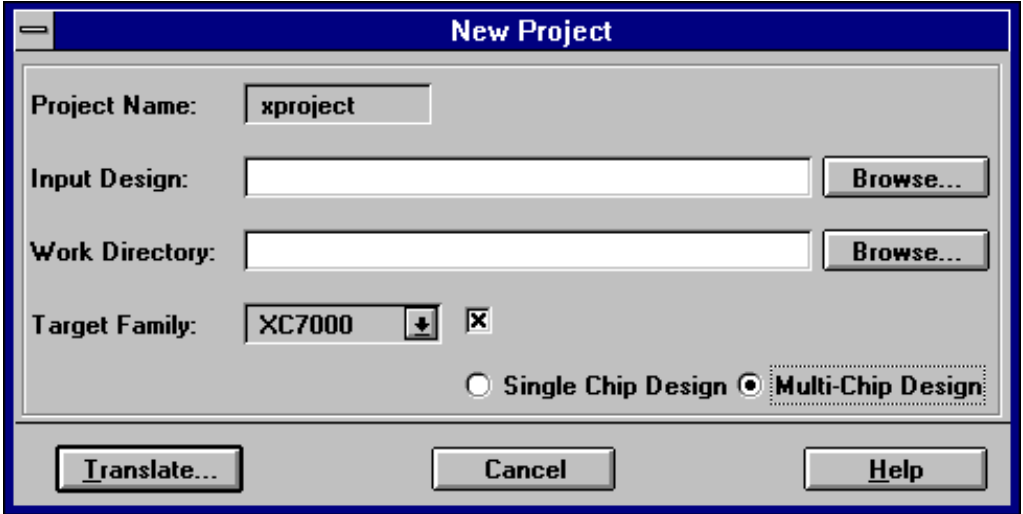

Figure 3-28 The New Project Window
- b) Open the project with the New Project command, as shown in Figure 3-28.